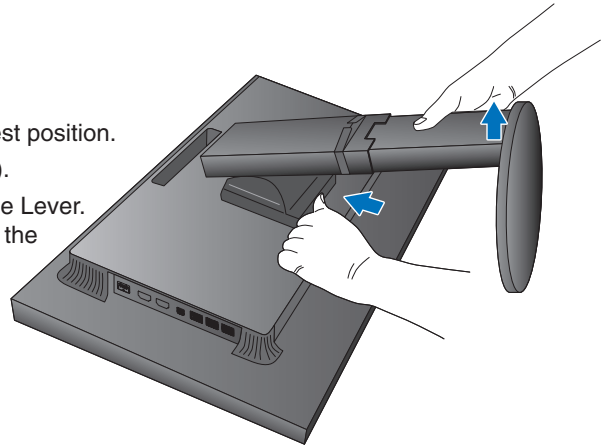

Figure S.1
3. Place the monitor face down on a non-abrasive surface (**Figure S.1**).
4. Place one hand around the base and one hand on the Quick Release Lever. Push and hold the Quick Release Lever in the direction indicated by the arrows (**Figure S.1**).
5. Lift up the stand to unhook it from the monitor (**Figure S.1**). The monitor can now be mounted using an alternate method. Reverse the process to reattach stand.